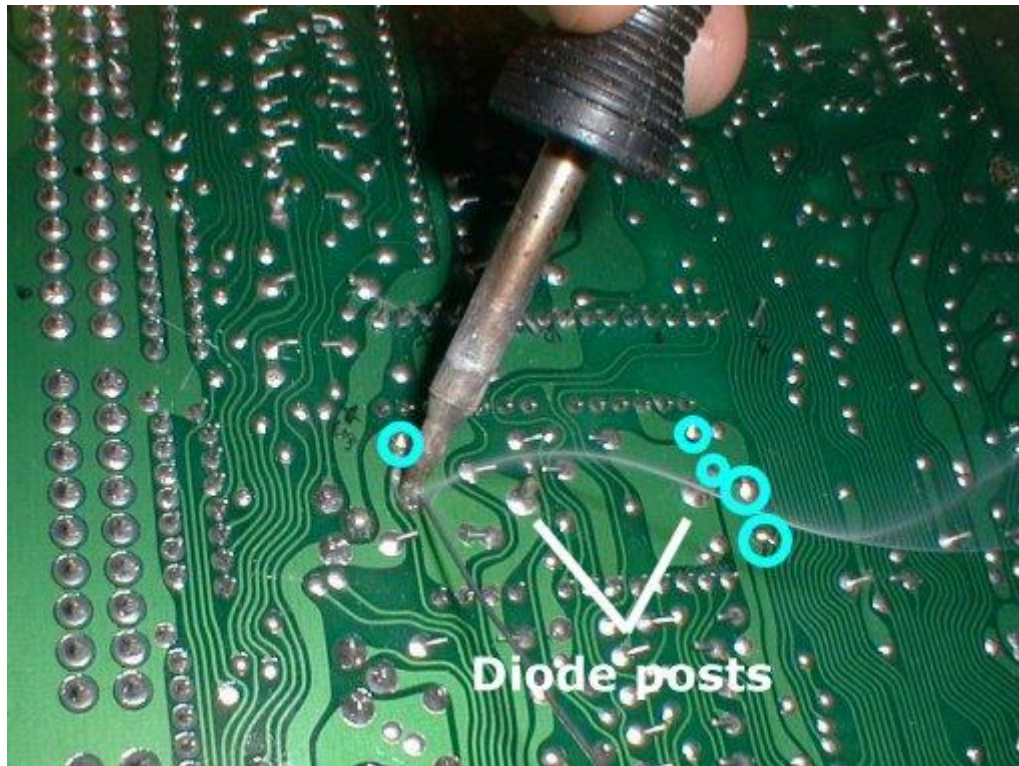

Figure 2
6. **Add Solder to the Capacitors.** Why do we want to *add* solder when we will just be sucking it away later? When the boards are wave soldered at the production factory, solder will attach to the capacitor leads on both the top side and bottom side of the thru-hole copper pad. It is possible that there is little or no solder in the hole between the top surface and the bottom surface. By adding solder back in, we assure ourselves there will be enough solder to conduct heat from the bottom of the board to the top of the board and melt the solder on the top surface of the pad. That will make sucking the solder out all that much easier and ensure that we won't be ripping the top off the pad when we take the capacitor out. **Figure 2** shows solder being added to the 47 μ F capacitor. It also shows the position of all of the capacitor leads relative to the huge diode posts, which are unmistakably huge. Note that all of the capacitor legs are bent outwards while all resistor and diode leads are bent inwards.